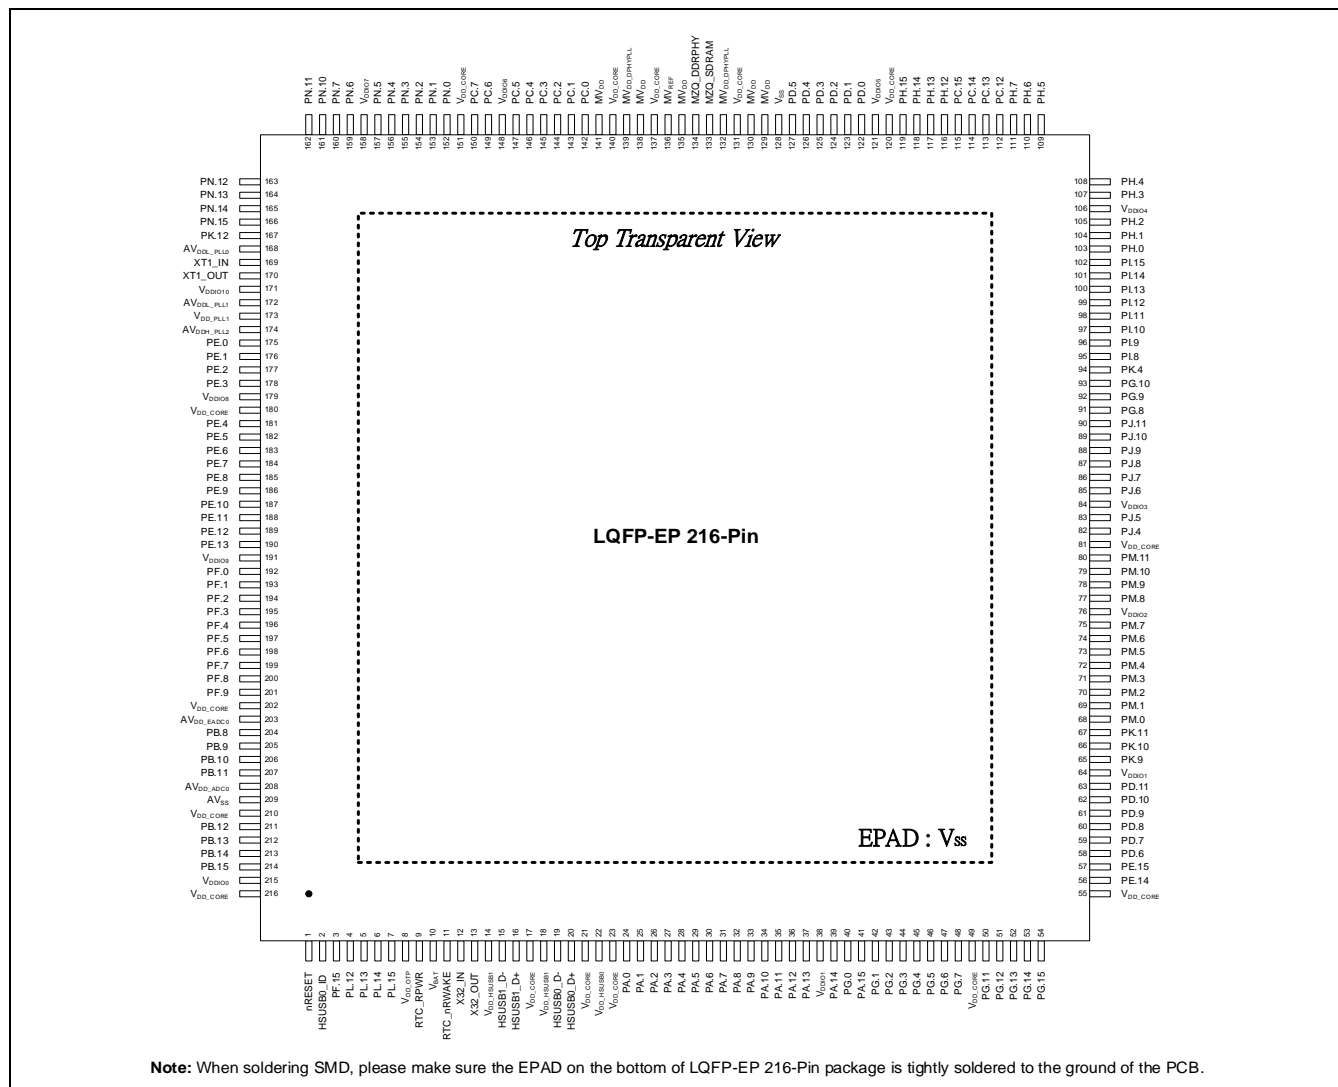

Figure 1.1-1 NuMicro MA35D1 Series LQFP-EP 216-Pin Pinout Diagram
Figure 1.1-1 shows the NuMicro MA35D1 series LQFP-EP 216-Pin pinout diagram that is the same shown in the related Datasheet (DS) and Technical Reference Manual (TRM).